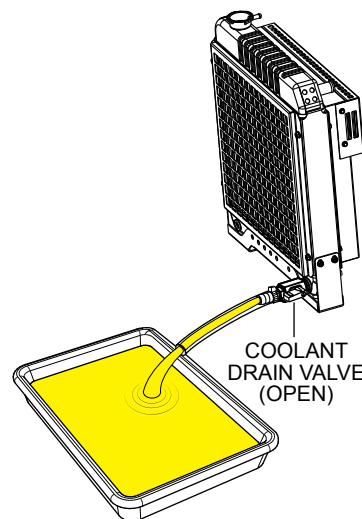

Figure 3. Draining Radiator
6. Place a pan or suitable container (Figure 3) underneath the coolant drain valve.